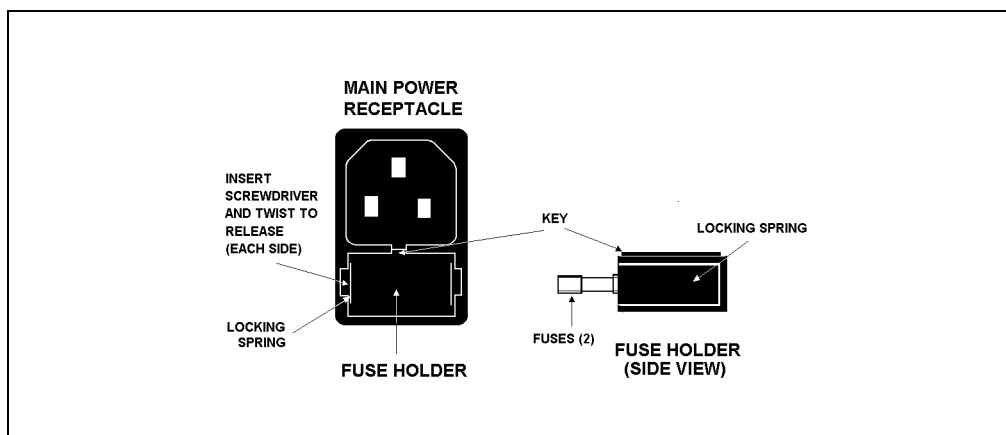

Figure 5-1. Main Power Fuse Holder
2. The fuse holder is part of the main power receptacle on the rear panel of the IC25 (see Figure 5-1). A recessed lock is located on each side of the fuse holder. Using a small screwdriver, push each lock toward the center to release it. The fuse holder pops out slightly when the locks release. When both locks are released, pull the fuse holder straight out of its compartment.